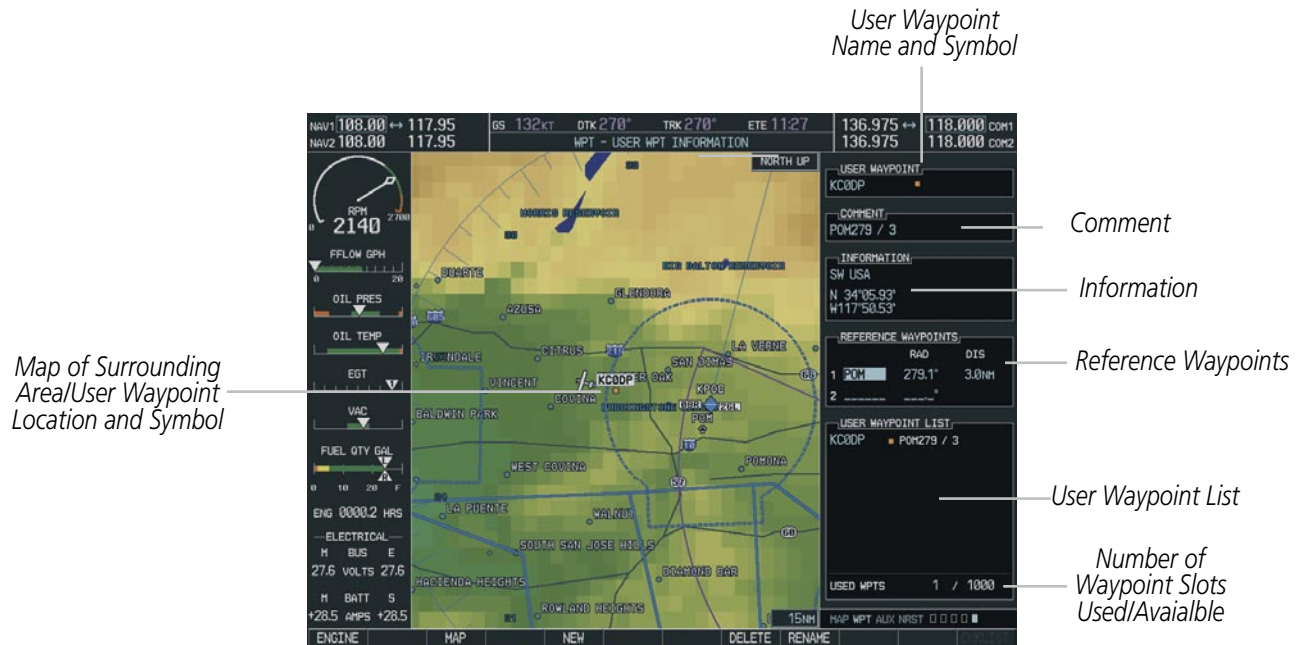

Figure 5-47 User WPT Information Page
Selecting the User WPT Information Page (Figure 5-47):
- 1) With the Nearest Airports Page displayed, press the **MENU** Key (Figure 5-47).